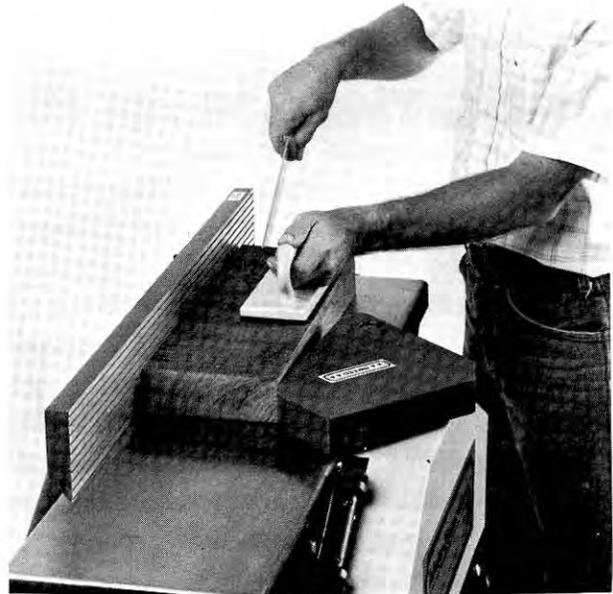

FIGURE 16
7. Always use the hold-down/push block or push-stick for thin stock of less than 3 inches, short stock of less than 12 inches or stock narrower than 3 inches. Always feed with the grain. Feed the work into the blade against the direction of rotation of the Jointer/Planer Blades. (See Figure 16)
Hold-down/Push Block may be used in tandem with 530363 Safety-Push Stick. (See Figure 16)